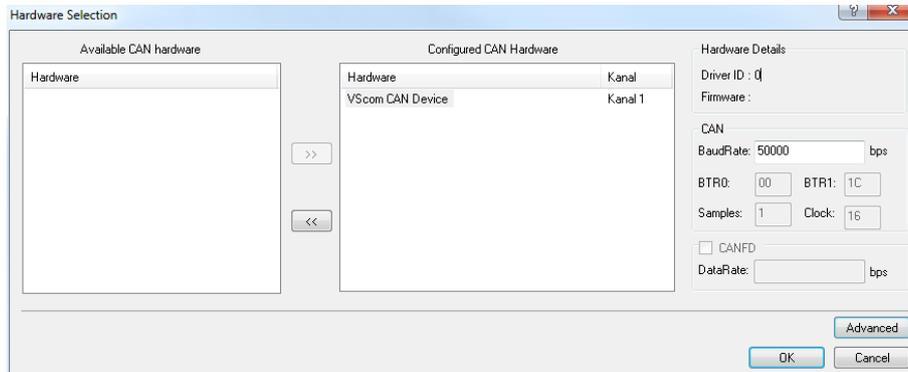

Figure 16: BUSMASTER: Select Hardware Interface
3. In the „Hardware Selection” dialog move „VScom CAN Device” from „Available CAN Hardware” to „Configured CAN Hardware” (see Figure 16)